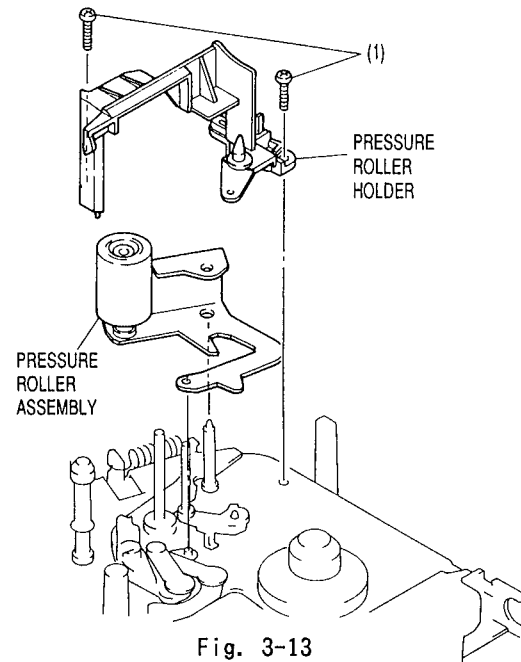

Fig. 3-13
- 1) Remove 2 screws (1). (See Fig. 3-13)